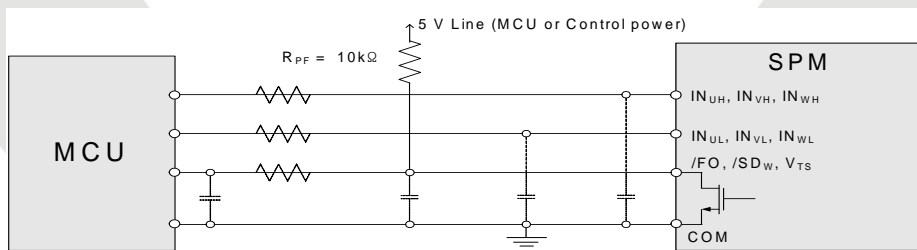

Figure 16. Recommended MCU I/O Interface Circuit
12. /FO is open-drain type. This signal line should be pulled up to the positive side of the MCU or control power supply with a resistor that makes I_{FO} up to 1 mA. *Please refer to Figure 16.*